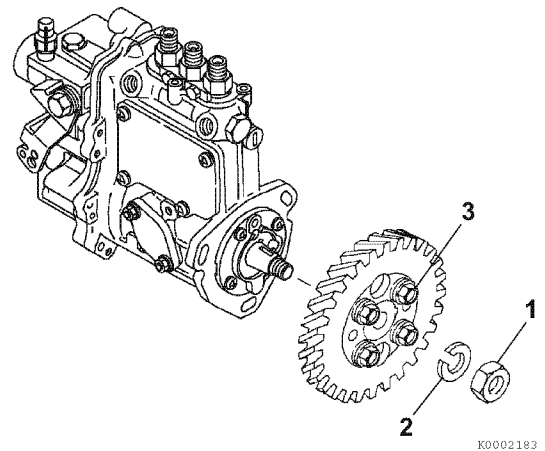

Figure 7-17
- Do not loosen or remove the four bolts (Figure 7-17, (3)) holding the pump drive gear to the hub. Only remove the single drive gear nut (Figure 7-17, (1)) and washer (Figure 7-17, (2)), leaving the hub attached to the gear.
- Hold the gear train stationary using a large socket wrench on the crankshaft pulley bolt. Loosen the fuel injection pump drive gear retaining nut (Figure 7-17, (1)) and turn it out to the end of the fuel injection pump shaft.